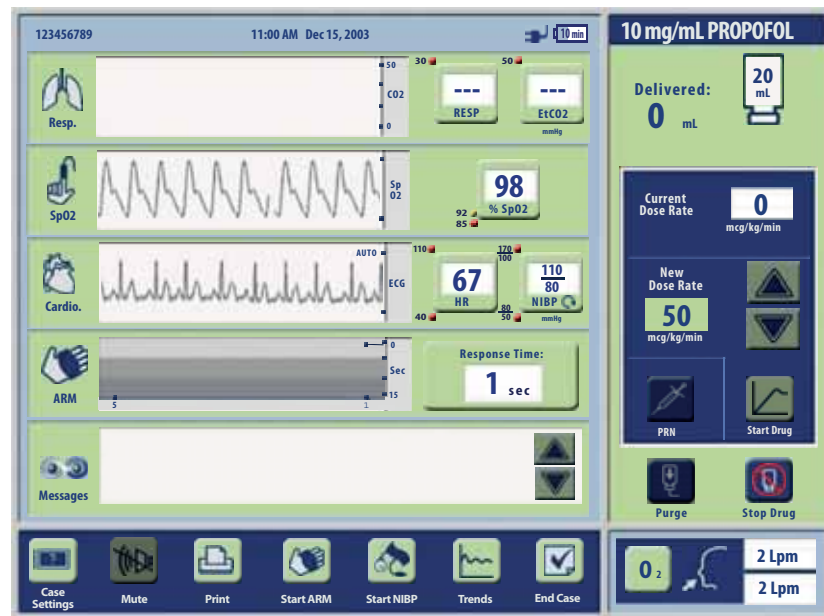

Figure 6-17 PRU Monitoring Screen
4. Select and press the **Dose Rate** button located on the left side of the screen (refer to Figure 6-17 on page 6-14). Enter Dose Rate (e.g., 15, 30, 45, 60, 75 mcg/kg/min) that most closely corresponds to the desired initial dose rate.